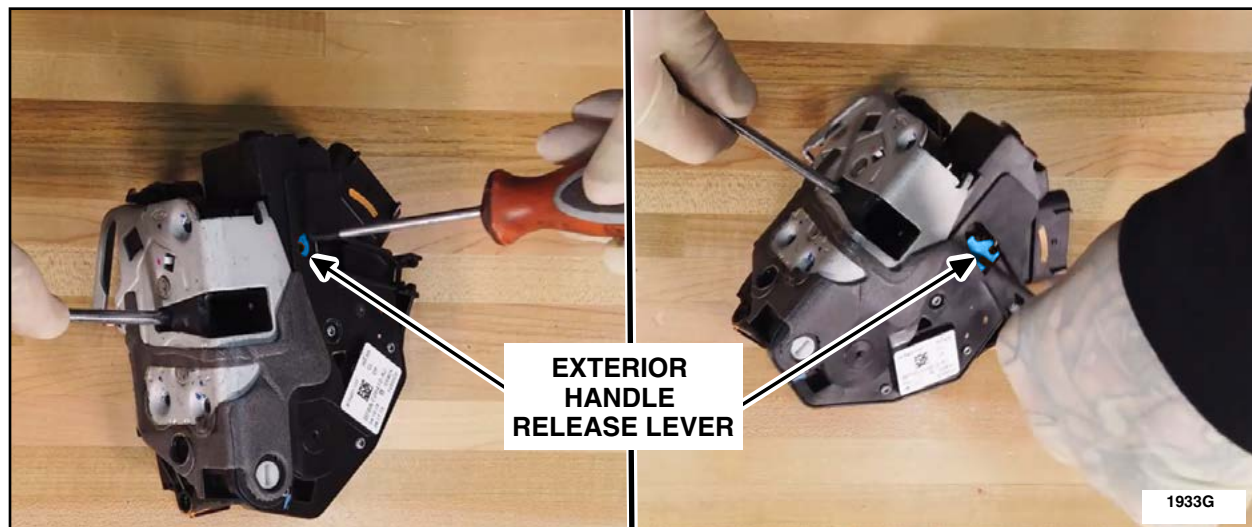

FIGURE 24
5. After the latch has been placed in the latched position, take a second screwdriver and actuate the exterior handle release lever. See Figure 24.